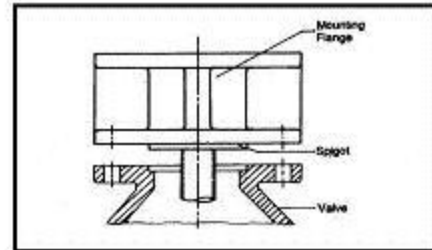

Fig. 3
**2.3** Positioning the Gear Box on the valve is made easy by a spigot on the mounting flange (fig.3).